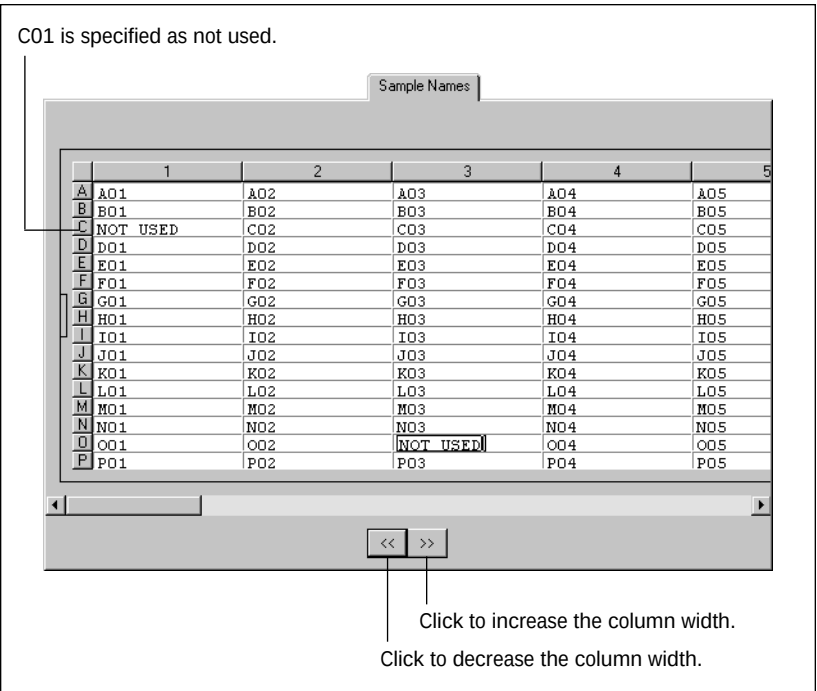

Figure 9-3. The Sample Names tab of the Plate Setup window.
1. In the **Sample Names** tab of the Plate Setup window (figure 9-3), adjust the width of the column that includes the unused well. To increase the column width, click the **RIGHT ARROW** key in the Sample Names tab. To decrease the column width, click the **LEFT ARROW** key in the Sample Names tab.